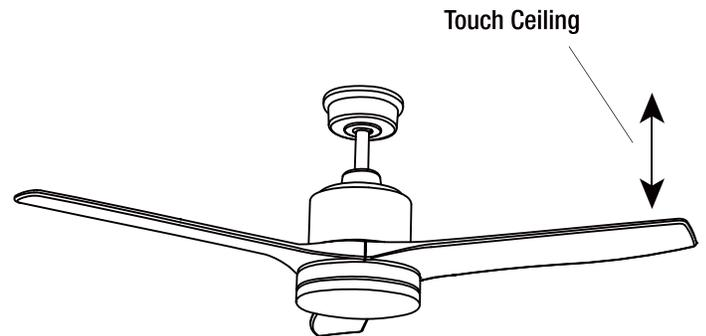

Figure 16
- Most fan wobble problems are caused when blade levels are unequal. Check this level by measuring the distance from the tip of one blade to the ceiling as shown in Figure 16.
| Excessive Wobbling. | <ul style="list-style-type: none">□ Make sure that screws which attach fan blade holders to motor are fastened and tightened.□ Tighten screws of fan blade to blade holder securely.□ Ensure that canopy and mounting bracket are tightened securely to ceiling joist.□ Check by selecting a point on the ceiling above the tip of one of the blades. Measure this distance and ensure all blades are even (see Fig. 16). |